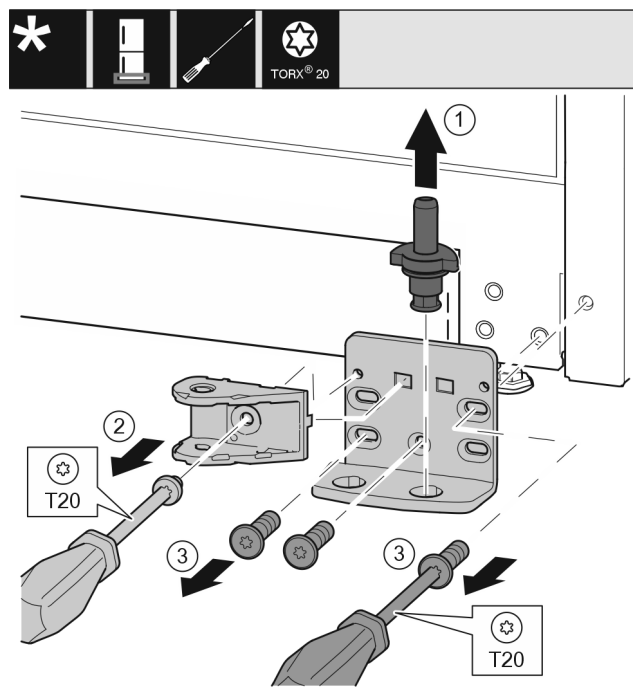

Fig. 24
- Pull the bearing bolt Fig. 24 (1) out upwards completely.
- Use screwdriver to unscrew the screw Fig. 24 (2) and remove the closing damper connection.
- Use screwdriver to unscrew the screws Fig. 24 (3) and remove the swap bearing block.